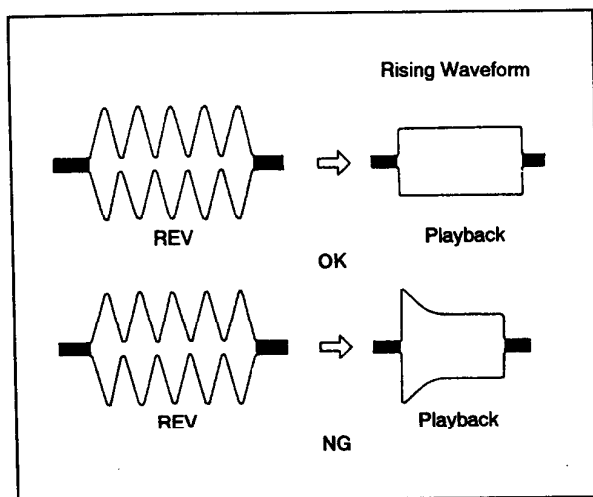

Fig. 4-9.
- 6) If the waveform is not normal (See Fig. 4-9), turn the upper flange ③ of the No. 2 guide (TG-2) ① 90° counter-clockwise and repeat step 5.